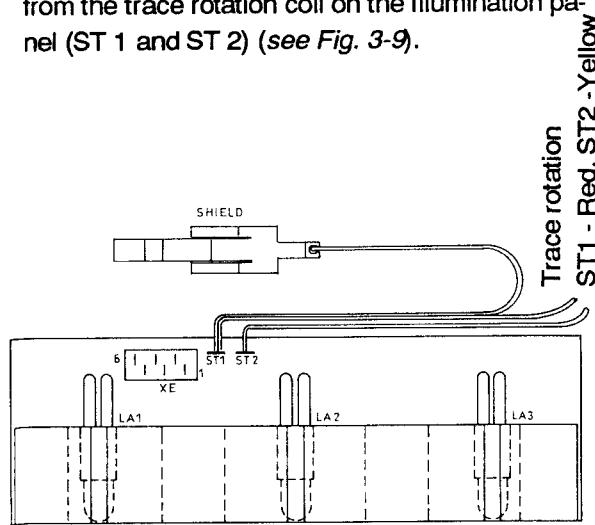

Fig. 3-9 Wiring illumination panel
- Unsolder the wire yellow and the red wire coming from the trace rotation coil on the illumination panel (ST 1 and ST 2) (see Fig. 3-9).